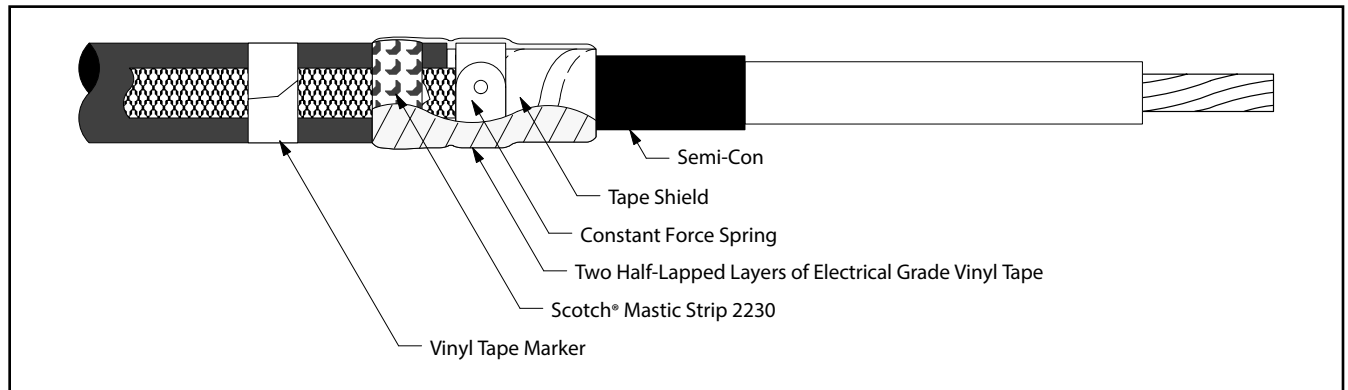

Figure 5
- 3.5 Wrap two highly stretched half-lapped layers of electrical grade vinyl tape around mastic seal, constant force spring and exposed tape shield (Figure 5).